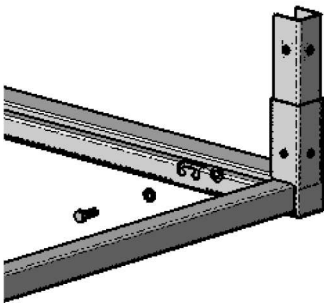

Figure 2A
2. Using (2) 3/8"–16 x 1" bolts, (2) 3/8" lock washers, (2) 3/8" Flat washers, attach the Top Bar channel to the inside of each left and right end frame (Figs. 2A & 2B). **Note: Do not tighten hardware until all bolts are in place.**